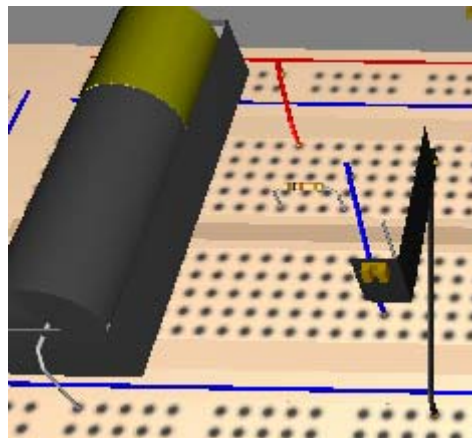

Figure 22. Wiring complete
- Wire the components as shown in figure 22. Again it is prudent to follow the color convention you used on the schematic. Notice as you wire that MultiSim actually highlights the connection end-point.